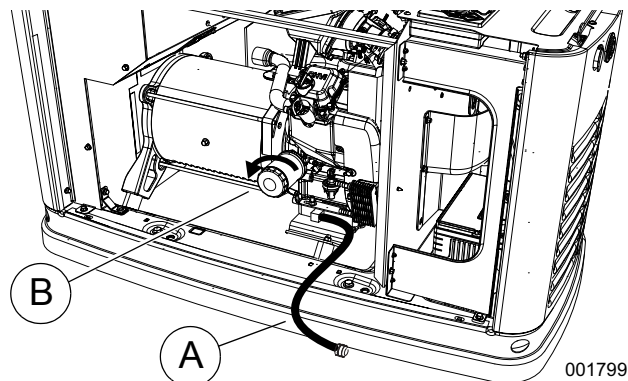

Figure 4-2. Oil Filter and Drain Location
2. See Figure 4-2. A few minutes after the engine stops, and when it has cooled slightly, lift the lid and remove the front panel. Pull the oil drain hose (A) free of its retaining clip. Remove the cap from the hose and drain the oil into a suitable container.